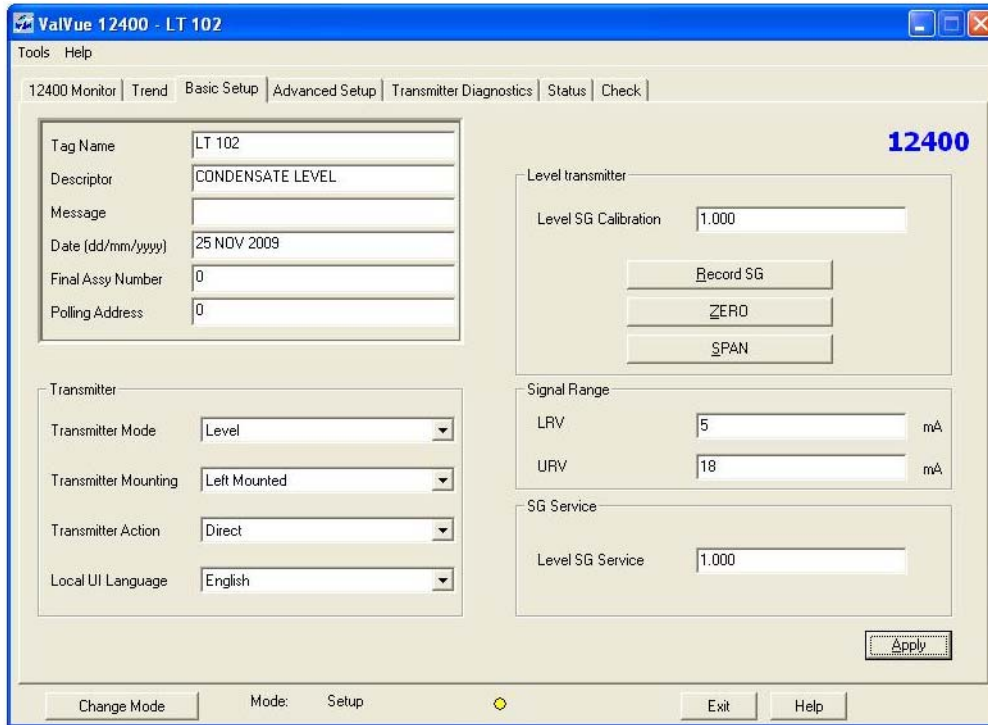

Figure 162 Saving New Signal Range
2. Click **Apply** (Figure 162) to save the new range.